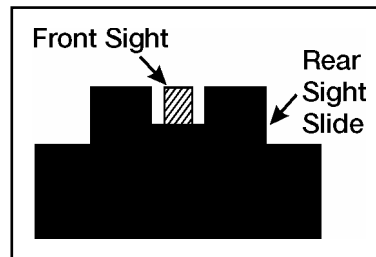

Figure 071-312-3031-1. Sight alignment
- a. Align the sight by centering the front sight blade in the aperture of the rear sight with the top of the front sight blade, and even with the top of the rear sight slide (figure 071-312-3031-1).
- b. Obtain a sight picture by centering the target over the front sight blade. The target should appear to rest on top of the front sight blade and on top of the rear sight slide (figure 071-312-3031-2).